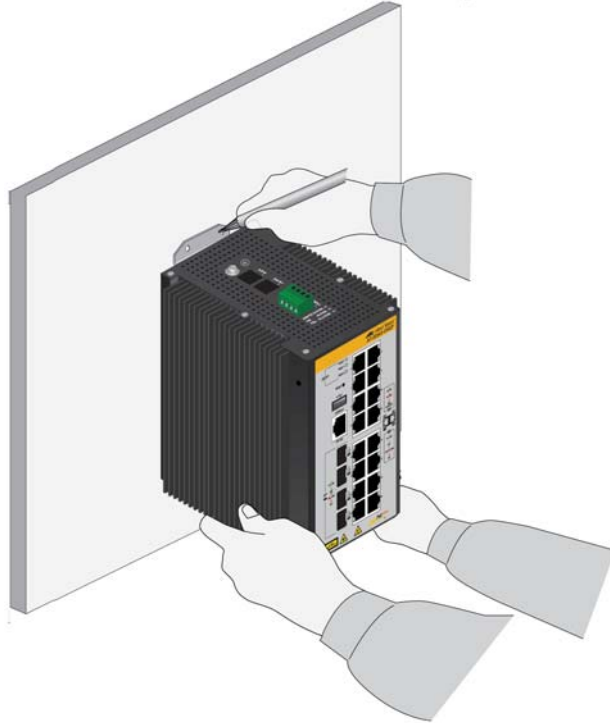

Figure 27. Marking the Locations of the Bracket Holes on a Concrete Wall
4. Have a person hold the switch on the concrete wall at the selected location for the device while you use a pencil or pen to mark the wall with the locations of the four screw holes in the two wall brackets. Refer to Figure 27 on page 81.
- The switch must be oriented as shown in Figure 27. You may not install the switch horizontally or upside-down.